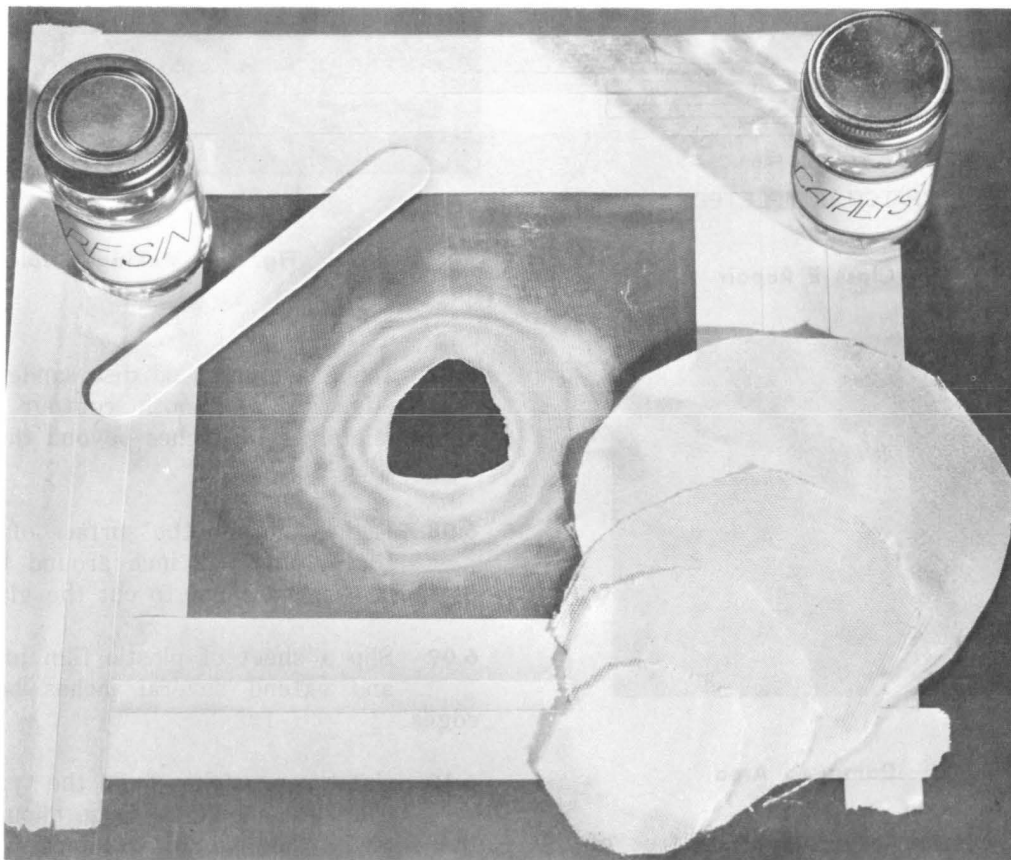

Fig. 23—Feathered Hole Ready to Receive Filler Patches
6.11 Cut a patch of type 316 fabric to cover the feathered cutout and the area abraded around it. (See Fig. 23.)